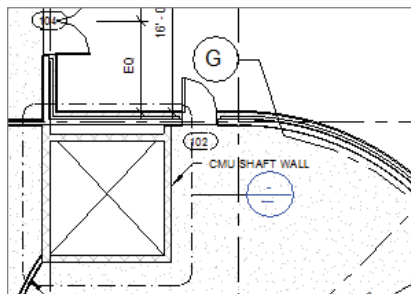

FIGURE 8.20 Adding bubbles to the radial grid line and adjusting their placements with elbows
6. The actual grid bubble lands in a congested area. Fix this by adding an elbow and adjusting the bubbles, as shown by grid G near the top of Figure 8.20.